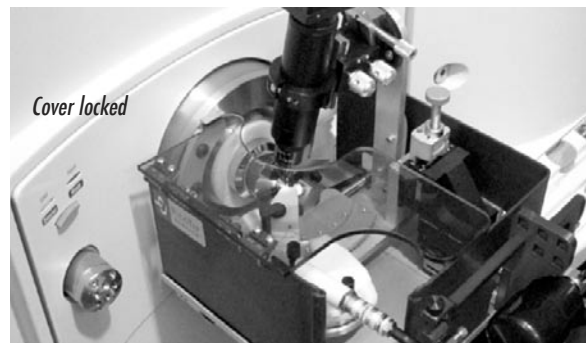

Figure 4.8: Source pushed firmly against flange
- 2) With the PicoView mounted on the probe slide adapter, gently slide the assembly toward the source mounting flange. A groove located at the tip of the left mounting bracket will lock the cover down when the source is pushed firmly against the flange. (Figure 4.8)